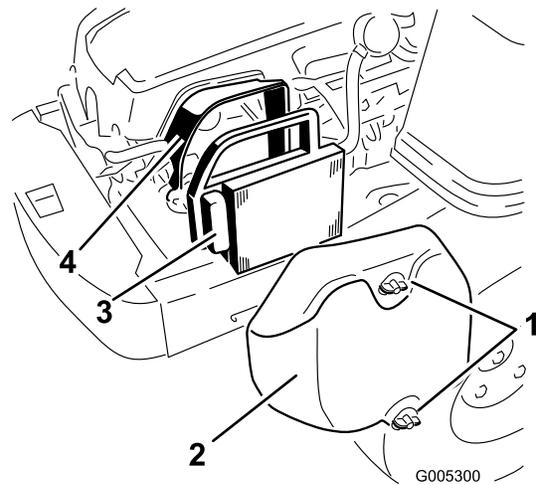

Figure 25
1. Remove the air cleaner cover (Figure 25).
2. Remove the air cleaner element with the integral rubber seal (Figure 25).
- Install the air cleaner element with the pleated side “out” and seat the rubber seal onto the edges of the air cleaner base (Figure 25).
- Reinstall the air cleaner cover and secure with the two knobs (Figure 25).